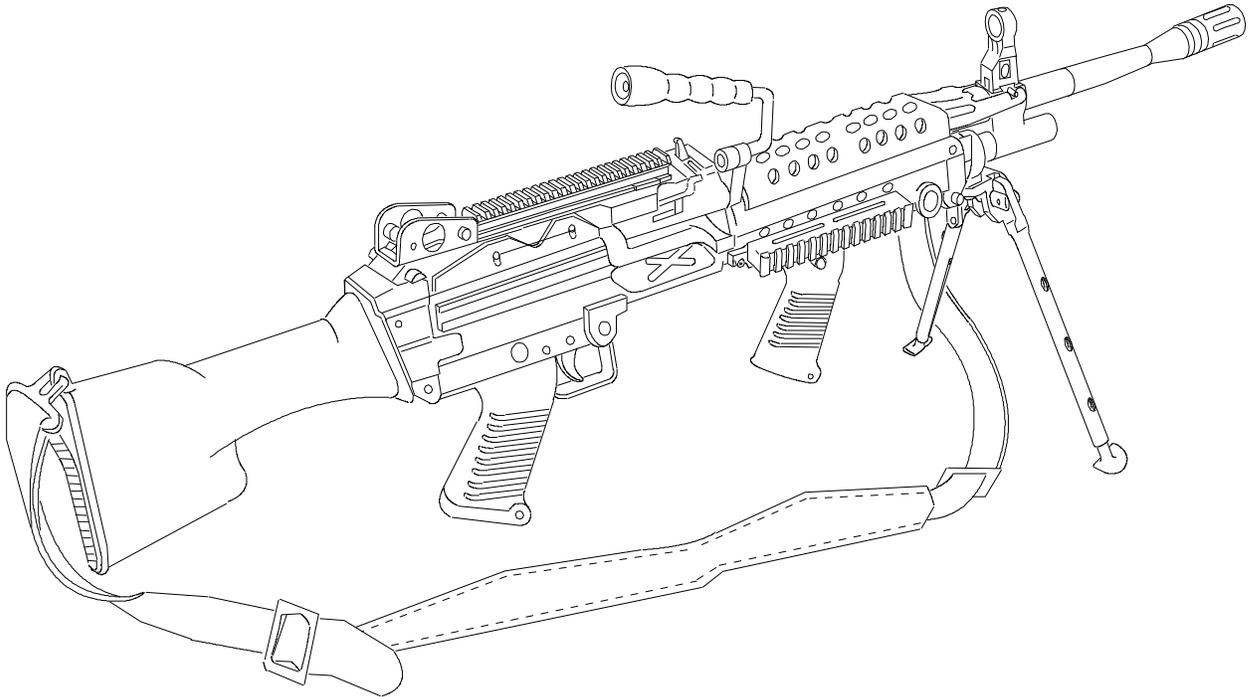

Figure 8
15. MATERIEL CHANGE (MC) NUMBER. 1-04-05-0020.
16. MODIFICATION IDENTIFICATION. No change in NSN, nomenclature, LIN or model designator is made by this MWO. The application can be verified by visual examination of the receiver assembly for a MIL-STD-1913 Rail. See Figure 8 below for illustration of the M249 MG after completion of this MWO.